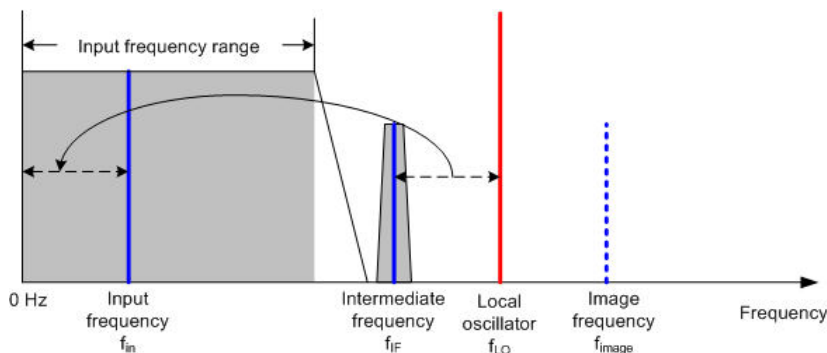

Figure 14-3: Mixing process
The mixer converts the RF signal to a fixed intermediate frequency (IF). This process usually involves several stages. It lasts until you get an IF for which good narrowband filters are available. The R&S FSH needs three mixing stages to get an IF that the filter can handle. Figure 14-3 graphically shows the mixing process.